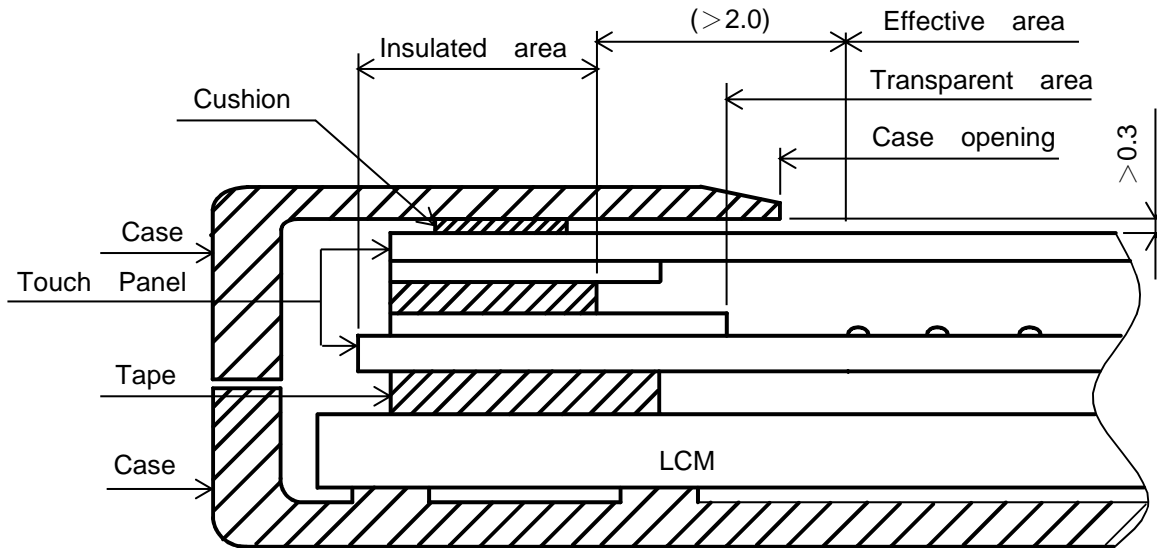

Fig 13.1
1) Please refer to Fig. 13.1 for housing the display with touch panel into applications. The Fig. 13.1 shows some points as below:
1) The lot mark is showing in Fig.13.1. First 4 digits are used to represent production lot, T represented made in Taiwan, and the last 6 digits are the serial number.